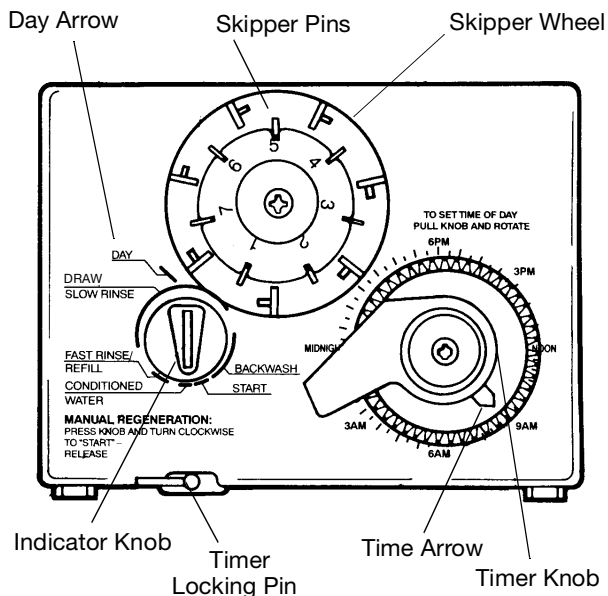

Figure 5
Note: The following steps will require turning the indicator knob (Figure 5) to various positions. Manually rotate the camshaft
Electricity is used only to run the control and to rotate the camshaft. All other functions are operated by water pressure. Therefore, in the event of a power outage, all the regeneration positions may be dialed manually by depressing the indicator knob and turning **COUNTERCLOCKWISE** (Figure 5). The following cycle times should be used for proper regeneration:
1. Set the number of days of regeneration on the skipper wheel (Figure 5).
Note: The Timer Locking Pin should always be horizontal (Figure 5) during operation.